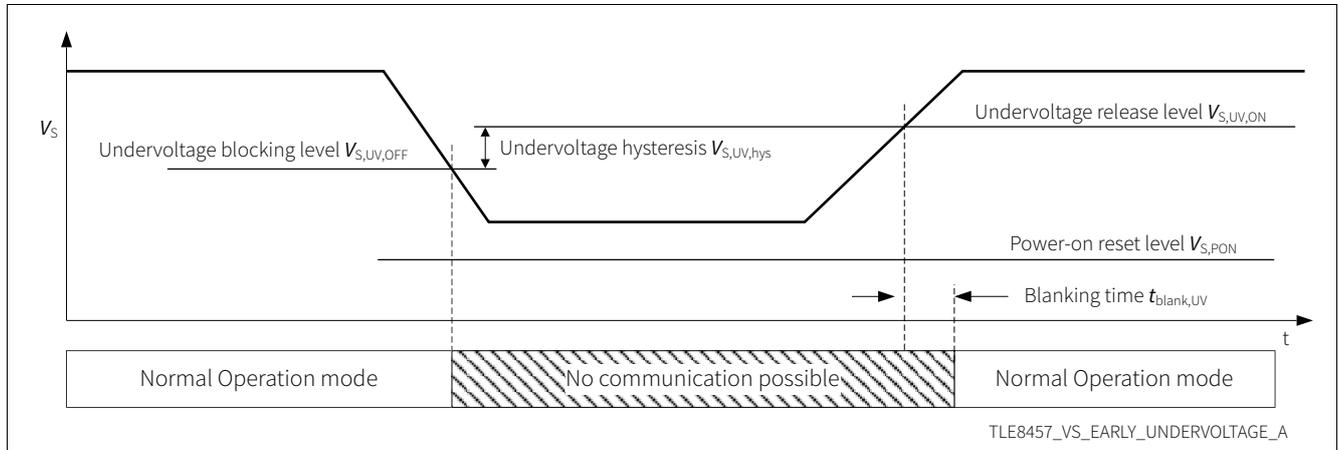

Figure 9 V_S early undervoltage detection
- In normal operation mode the TLE8457C / TLE8457D blocks the communication between the LIN bus and the microcontroller when detecting an early undervoltage event. The RxD output will be set “high”. However, no mode change will occur. After V_S rises above the undervoltage release level $V_{S,UV,REL}$, the bus communication interface will be released as soon as the signal on the TxD input goes “high” (see Figure 9).